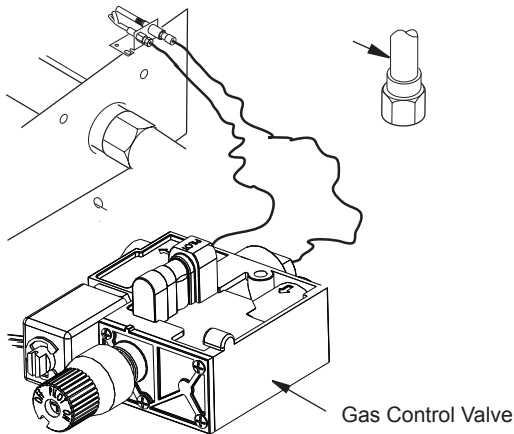

Figure 6 - Installing Inlet Fitting and Gas Connector Tube (Heat Shield Removed for Clarity)
3. Install the gas connector tube to the gas supply adapter. Carefully shape tube and attach to gas inlet fitting (see Figure 6 on Page 7). Be careful not to cause kinks in tube.